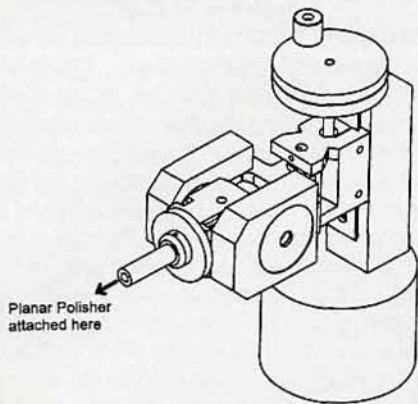

Figure 3 - Schematic of the Micropositioned Polishing Head
- (1) a base, with a true-running mechanized rotational lapping surface, and,
- (2) a firm Planar Positioning device (as shown in Fig. 3), which includes: